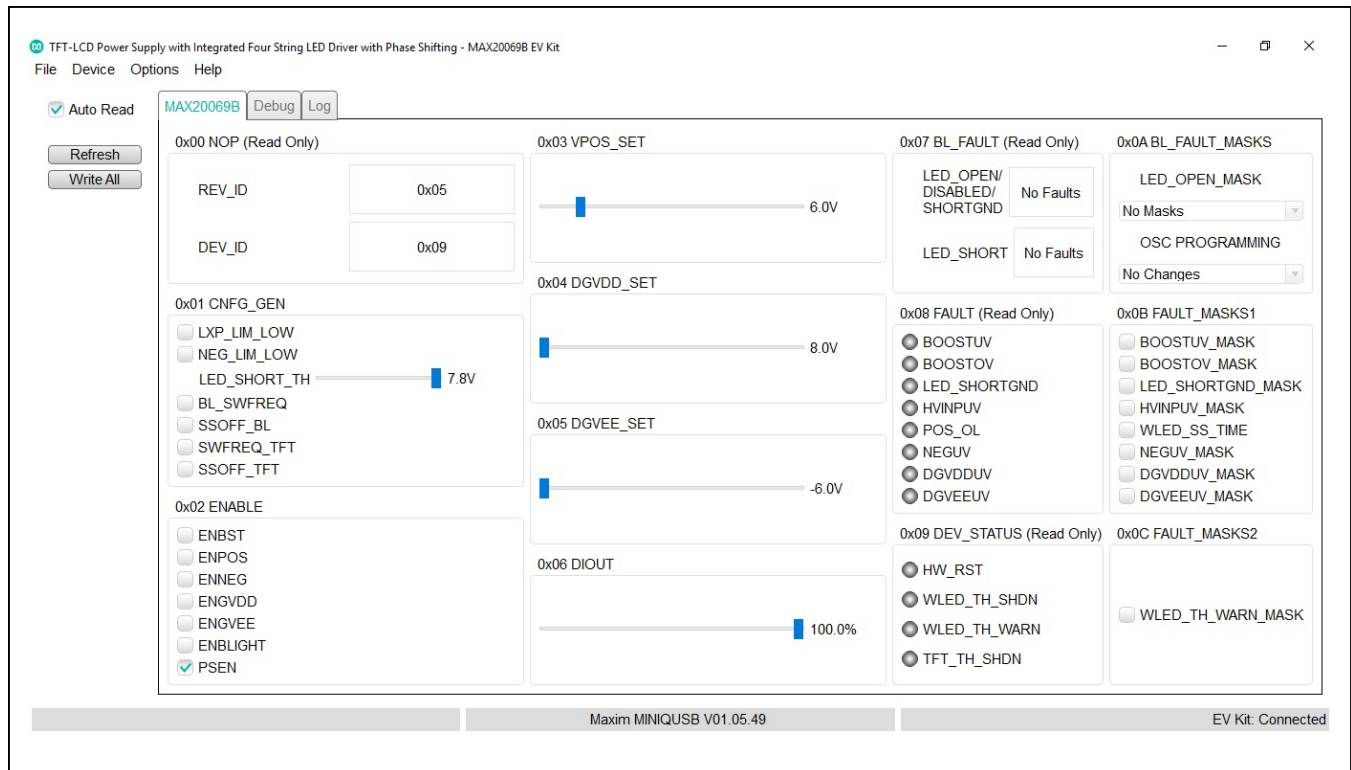

Figure 1. MAX20069 Evaluation Kit Software (GUI)
- 24) Verify that the status bar in the bottom-right corner of the GUI displays **EV Kit: Connected**, as shown in Figure 1.